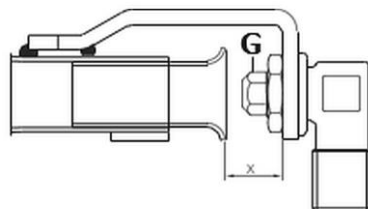

Fig. 7
4. Unscrew the main burner nozzle (G, Fig. 7).
The distance specified for adjusting the primary air is shown in Fig. 7 and Table 2.
1. After ensuring that the nozzle **G** is suitable for the type of gas, check the distance **"X"** for the primary air (Fig. 7).